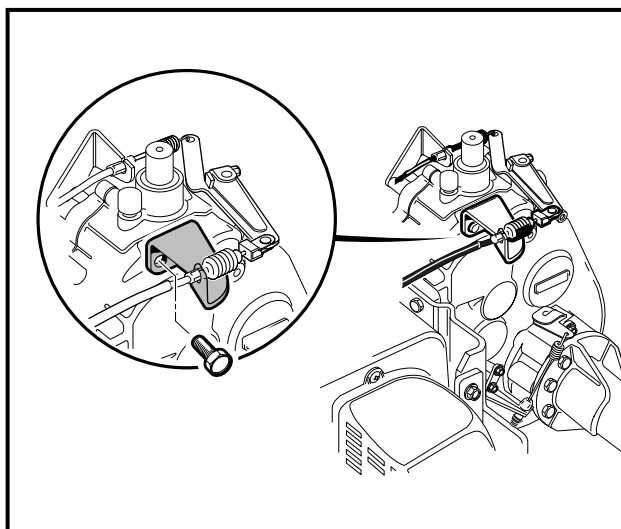

Figure 16-96 Governor Cable Bracket
8. Install the governor cable bracket on transaxle case. Tighten the mounting screws to 134 in-lb (15.1 N-m) (**Figure 16-96, Page 16-40**).